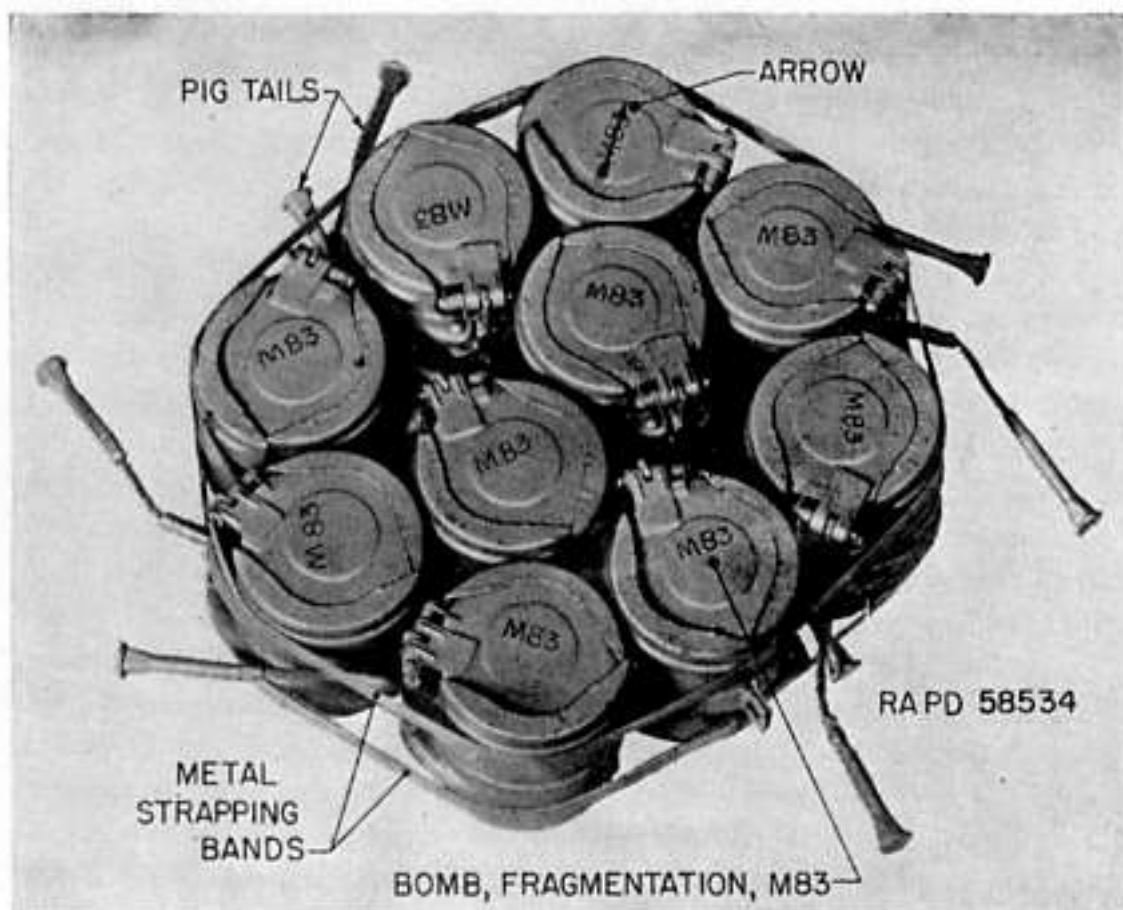

Figure 137. Wafer, assembly.
(2) Ninety Bomb, fragmentation, 4-lb., M83 in wafer form. (See fig. 137.) Ten bombs each from nine wafers are placed inside the adapter.
(3) Fuze, flare, mechanical time, AN-M111A2, for insertion in the nose of the adapter.
(4) Wire, arming assembly, for bomb cluster M29.